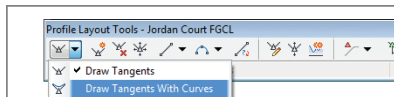

FIGURE 7.2 Invoking the Draw Tangents With Curves command
5. On the Profile Layout Tools toolbar, click the small black triangle on the far-left button to expand it, and then click Draw Tangents With Curves (see Figure 7.2).